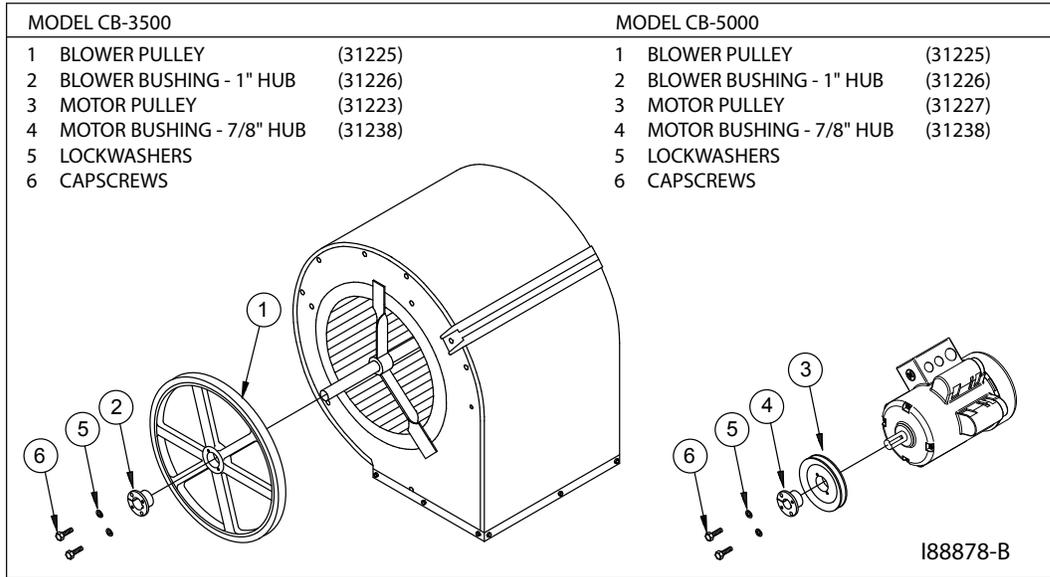

Figure 3D - Blower Pulley and Motor Pulley Parts List
1. Review the contents of the Blower Pulley and Motor Pulley as shown in Figure 3D.
2. Refer to Figure 3D. Place the blower pulley over and onto the blower shaft as far as possible with large bore end of taper outward.